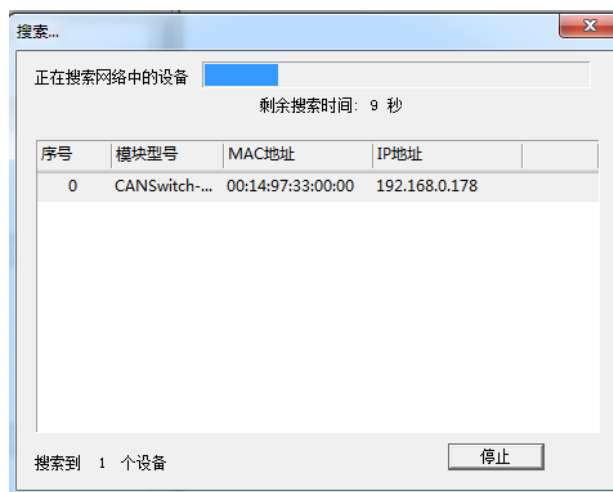

Figure 4.3 Searching for devices by using the ZNetCom software
5. Click . The interface shown in Figure 4.3 appears, where you can obtain the IP address of the device.